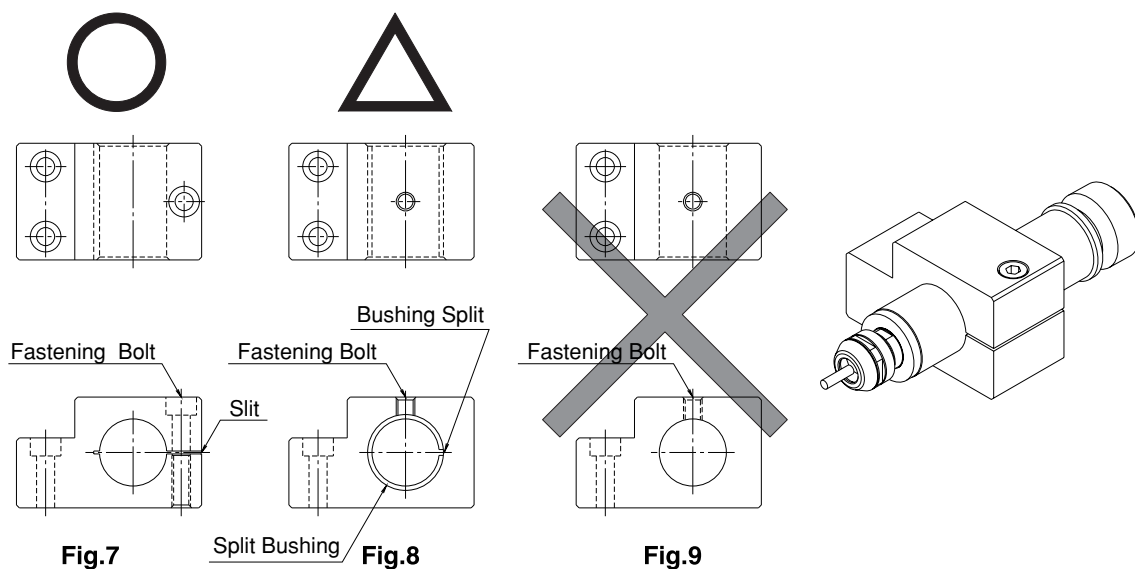

Fig.7
- ② The installation shown in Fig.7 is the recommended installation method. Therefore, the installation as shown in Fig.7 is the most recommended.